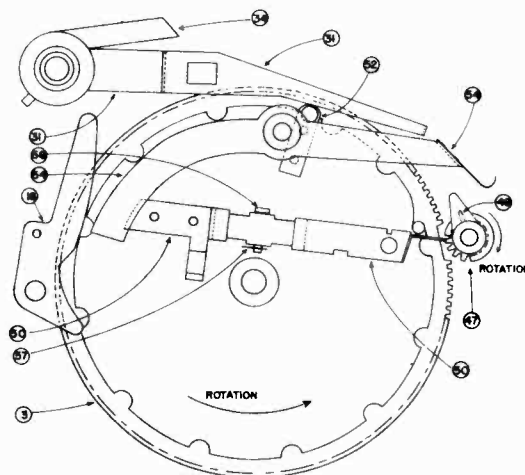

Fig. 9
Fig. 9 shows the relative positions of the various levers, which contribute to the change cycle, at rest. Note that the back end of the trip lever (54) is over the back end of the starting lever (50). The distance the trip lever maintains over the starting lever determines to some degree the sensitivity of the tripping operation.
Assuming a record to be playing, the operation is as follows (see Fig. 9): The tone arm (61) moving in on the record causes the friction lever (34) to continually "pull in." The friction between the tone arm and this lever is determined by adjustment "D." As the friction lever (34) "pulls in" it pushes the trip finger (31) causing it to push on the trip lever (54). In the meantime the small extension on the upper part of the rotating drive shaft pinion gear (47) continually strikes the spring on the end of the trip lever causing it to move back. As long as these two operations continue no tripping takes place. But a sudden motion of the tone arm, such as produced by the trip groove at the end of the record, causes the entire mechanism to move in rapidly before the extension on the drive shaft pinion gear can push it back. Under this condition the trip lever moves off the back end of the starting lever allowing it to drop.
**Miscellaneous Adjustments. (See Fig. 9)**